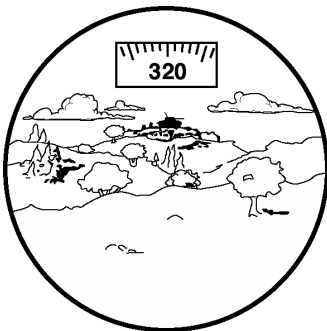

Figure 2-23. View Through Installed Compass.
(3) To view the compass through the monocular, grip the compass with index finger on top and thumb on illumination button on bottom. Press button slowly with thumb until proper brightness is obtained. The image should appear as shown in Figure 2-23.
(4) The compass readings should change when you move your head from side to side. Rotate or tap compass slightly to ensure compass is operating correctly. Hold the monocular in a level position to assure free rotation of the compass scale.